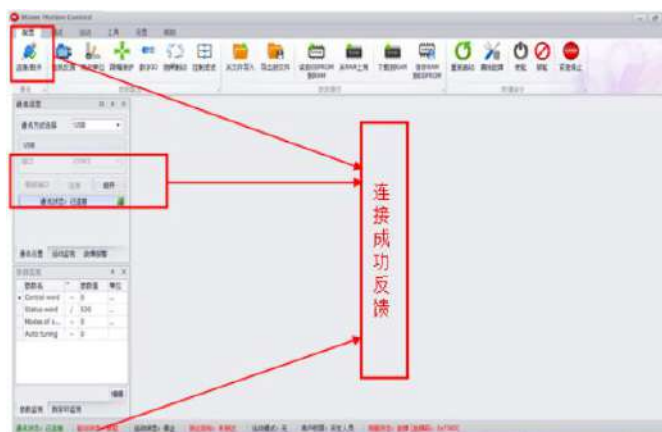

Figure 4-3 Communication connection succeeded
5. Click **"Connect"**. The result shows as in Figure 4-3.